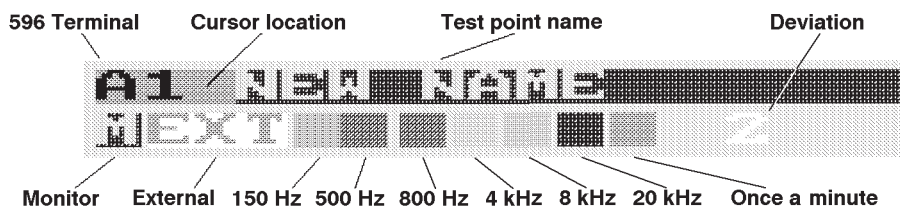

Figure 8 - Attribute and Setup Code Positions
7. **Code Key.** The code key indicates the color code of the test attributes and some setup parameters. The codes also have unique positions. Figure 8 indicates the positions of the attributes relative to the test point name. Note that all attributes cannot appear at once for the same test point. Each test point can have up to three attributes. The table (previous page) indicates the attribute color codes.